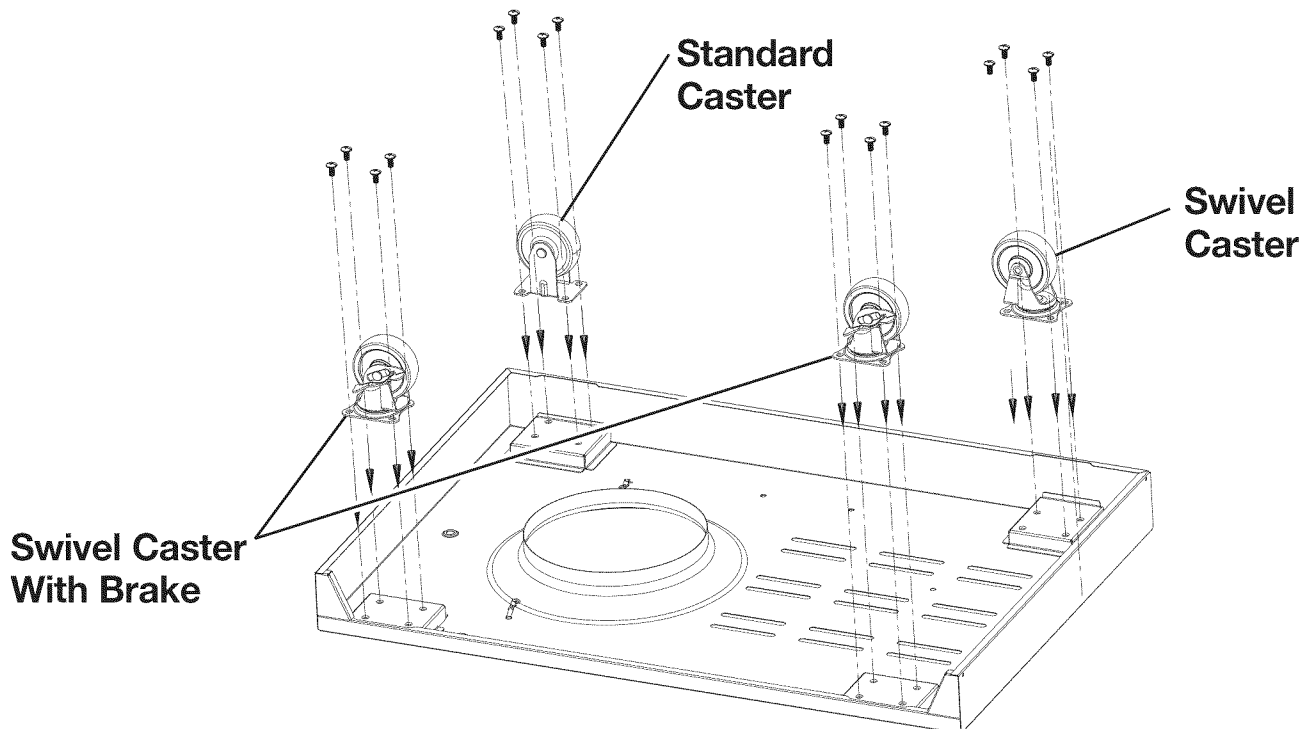

Fig. 1b
2. Attach the casters to the bottom shelf with sixteen (16) M6 x 13 screws as shown in **Fig. 1b**.